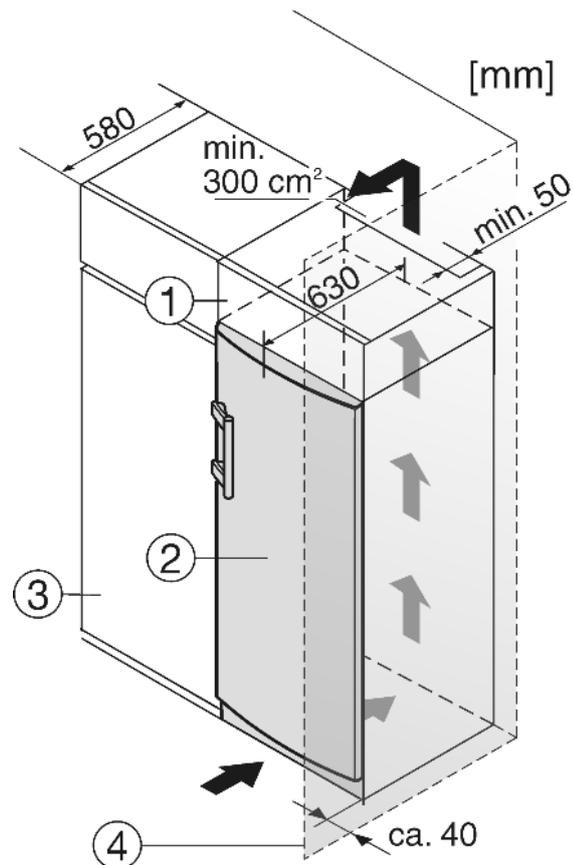

Fig. 8
- (1) Stack cabinet
- (2) Appliance
- (3) Kitchen cabinet
- (4) Wall
The appliance can be built into kitchen units. A top cupboard Fig. 8 (2) can be added above the appliance in order to bring the appliance Fig. 8 (1) up to the height of the fitted kitchen units.
When retrofitting with kitchen cabinets (max. depth 580 mm) the appliance can be installed directly next to the cabinet Fig. 8 (3). The appliance door projects 34 mm from the front of the kitchen cabinet at the side and 50 mm at the centre of the appliance. This is so that it can be opened and closed easily.
If the appliance is installed with the hinges next to a wall Fig. 8 (4), the distance between appliance and wall has to be at least 40 mm. This corresponds to the projection of the handle when the door is open.